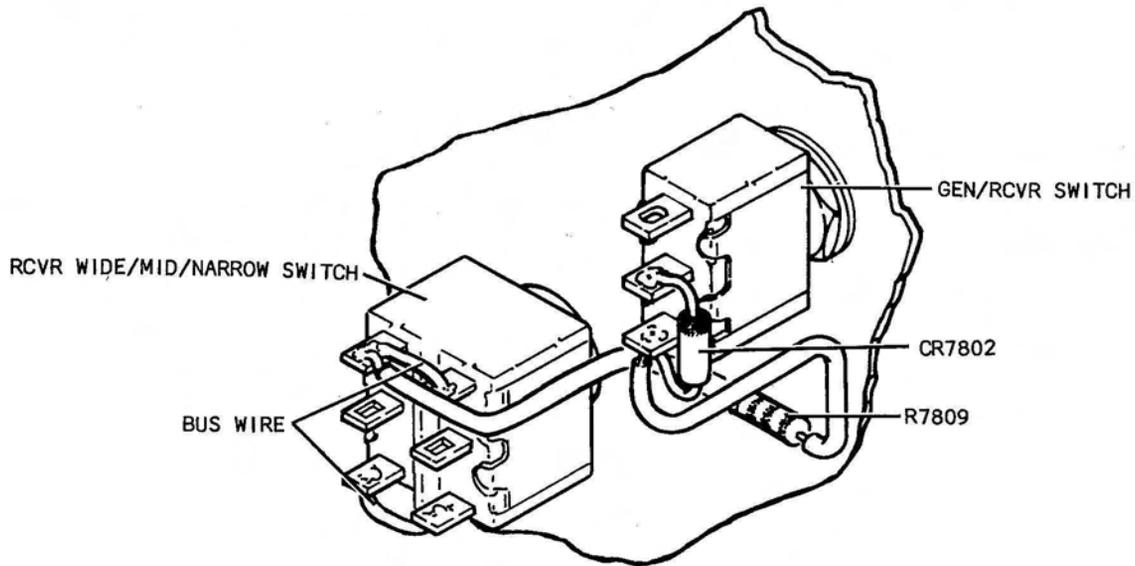

Figure 6-16 GEN/RCVR and RCVR WIDE/MID/NARROW Switch Installation
- O. GEN/RCVR Switch (23) by attaching:
1. Lock washer (24) and switch (23) at rear of panel (72); flat washer (50) and hex nut (51) at front of panel (72).
2. Ensure that switch is installed as shown in Figure 6-16 before soldering wires.